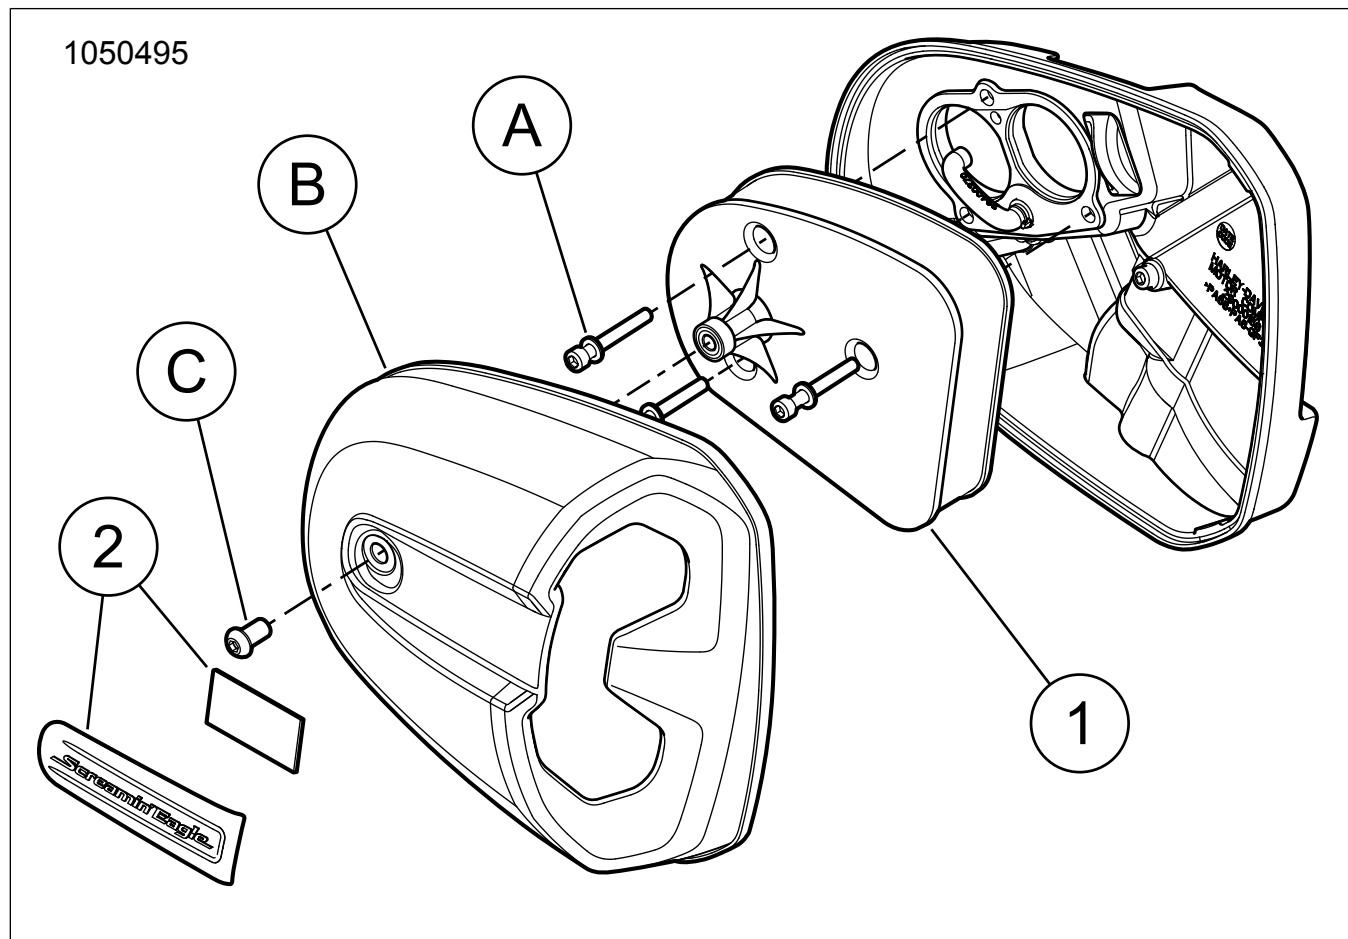

Figure 1. Service Parts: Screamin' Eagle High-Flow Air Cleaner - Milwaukee Eight™
See See Figure 1. and Refer to Table 1.
2. See See Figure 1. and Refer to Table 1. Remove air cleaner cover and filter.
1. See See Figure 1. Secure air filter element (1) to air cleaner backplate using screws (A). Tighten.